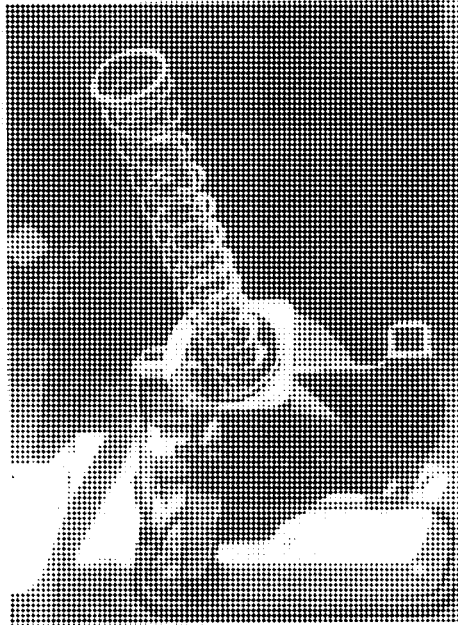

FIGURE 22.
- Install supplemental seat height spring from kit inside of existing spring in seat base. See FIGURE 22.